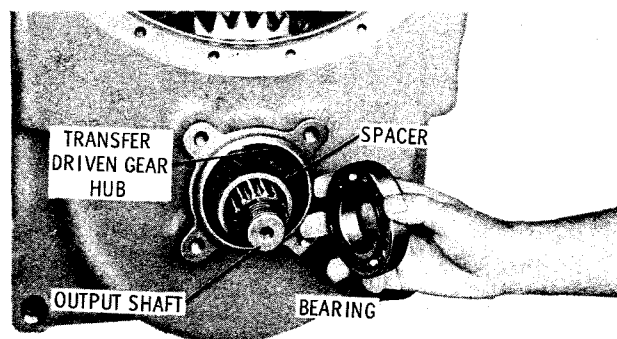
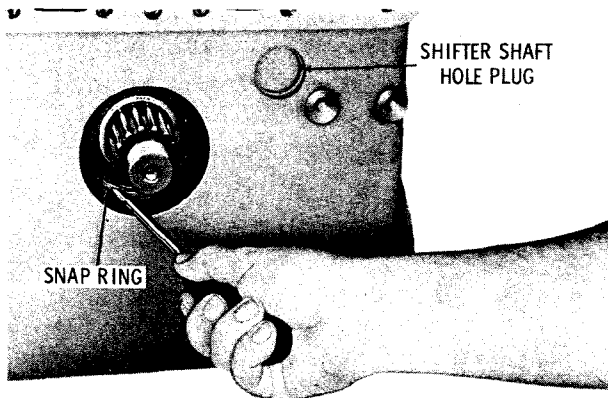

Fig. 7-3. Installing output shaft rear bearing and spacer
Fig. 7-4. Installing output shaft front bearing snapping
(5) Install the spacer onto the rear end of the output shaft (fig. 7-3). Start the rear bearing, loading groove first, into its bore in the housing, pushing the spacer toward the transfer gear hub.
(6) Supporting the shaft at the front end surface, drive the rear bearing and spacer forward until they are firmly seated against the transfer gear hub.
(7) At the front of the transmission housing, drive the bearing rearward and seat it firmly against the shoulder in the bore. Install the snapping to retain the bearing (fig. 7-4).
(8) Reseat the rear bearing, if necessary.
(9) Apply nonhardening sealant onto the outside diameter of lip-type oil seal 7, and